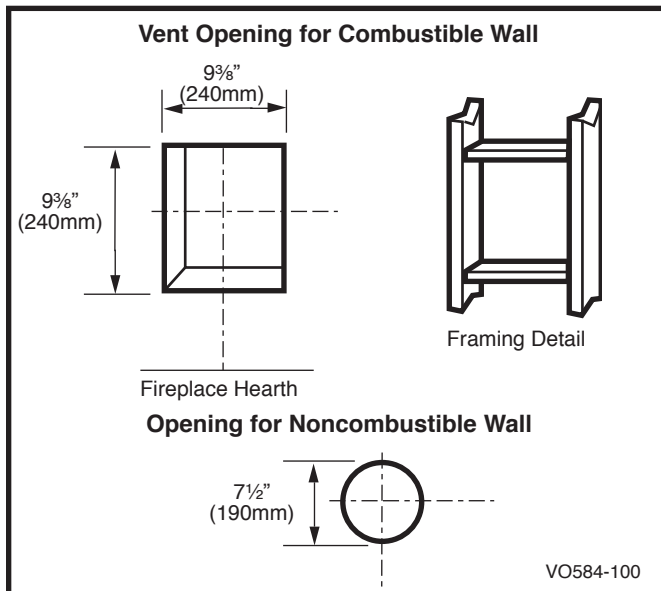

Fig. 25 Locate vent opening on wall.
Locate vent opening on the wall. It may be necessary to first position the fireplace and measure to obtain hole location. Depending on whether the wall is combustible or noncombustible, cut opening to size. (Fig. 25)
Combustible Walls (Fig. 25): Cut a 9 $\frac{3}{8}$ "H x 9 $\frac{3}{8}$ " W (240 x 240mm) hole through the exterior wall and frame.
Noncombustible Walls (Fig. 25): Hole opening must be 7.5" (190mm) in diameter.
1. Establish vent hole through the wall. (Fig. 25)